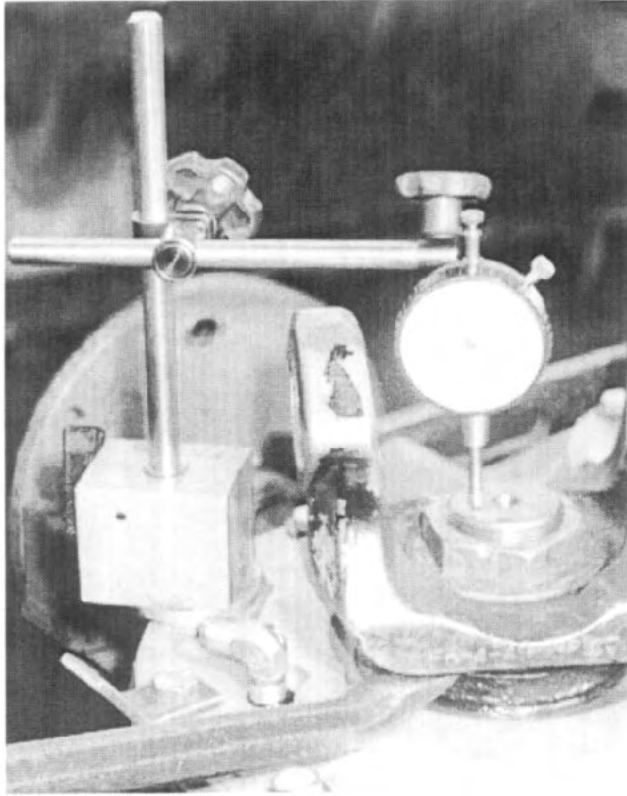

Fig. 92
31. Install the input shaft yoke. Using a dial indicator, and gently prying upwards the input shaft yoke, check that the end float is: **0.003-0.008 loose**. Torque to specification. See Fig. 92.